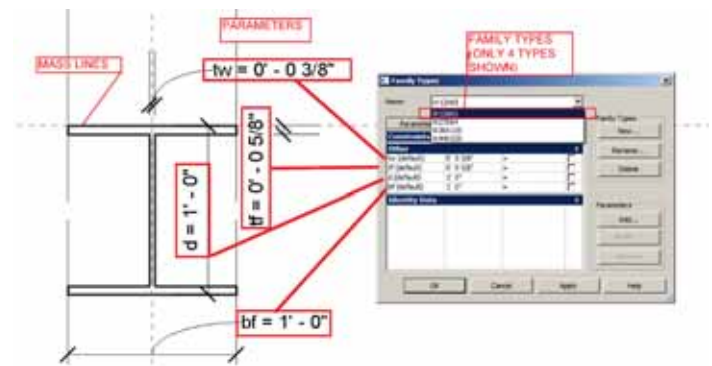
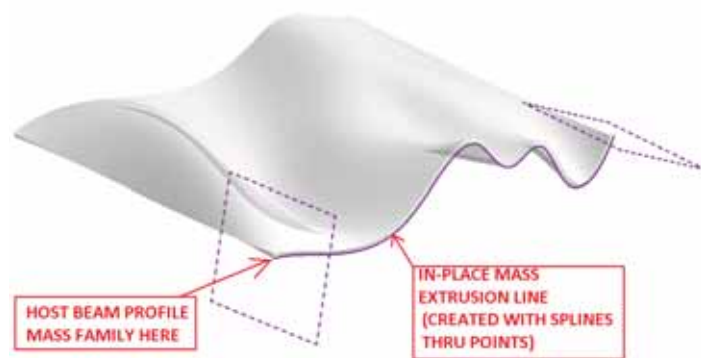

Figure 8 - Mass Beam Profile Family
Figure 9 - The Mass Extrusion Line
To create a beam that curves in two directions you will need to use an in-place mass because the Revit structural beam family can only curve in one direction. The furthest edge of the roof surface from the view in Figure 1 is not planar; therefore if we want to place a beam at that edge then it will need to curve in two directions. To build an in-place mass of a wide flange beam you have to build an extrusion line or workline as shown in Figure 9 and then build a profile family of the wide flange cross section as shown in Figure 8.
To build an in-place mass of a wide flange beam you have to build a beam mass profile. Revit does not simply allow you to assign a beam profile to the in-place mass. A profile of the wide flange beam has to be built in the mass family editor and then nested into the in-place mass, then extruded along an extrusion line. To do this, start a new conceptual mass family and in the plan view create a beam profile using only lines. Add parameters to these lines and create different family types for as many wide flange beam types as you like. See Figure 8.
1. Activate the "in-place mass" command and click on the reference point tool. Place reference points on the roof edge and make a spline thru those points as shown in Figure 9. Note that the more points you add the more accurate the spline will approximate the true geometry of the roof edge.
2. Host the mass beam profile shown in Figure 8 onto the reference spline's end point and create form.
- Go to the roof plan and use the detail pick line command and select the extrusion line of the in-plane mass family shown in Figure 9.